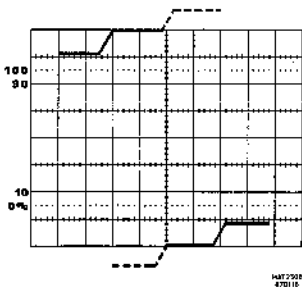

Figure 9.3 Service menu DISPLAY 5.
- Adjust the Y/5 gain R2516 on unit A1 so that the vertical distance between the two staircase signals is 8 div (+ or - 0,6 div) such as given in figure 9.3.